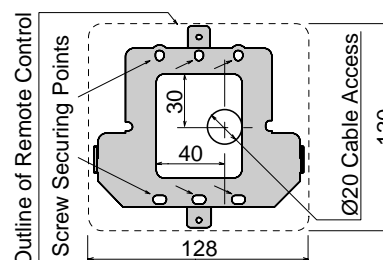

Fig.1
2. Using the wall mounting bracket as a template mark and drill 3 holes. Locate the cable access hole as shown in Fig. 1.